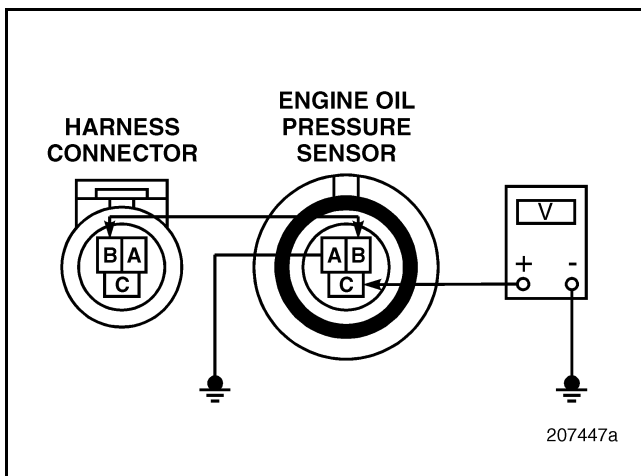

Figure 24
6. Measure the voltage between EOP Sensor pin C and a good ground at various pressures between 0 psi and 80 psi (see Figure 24). The correct pressure and output voltage specifications are shown in the table below.